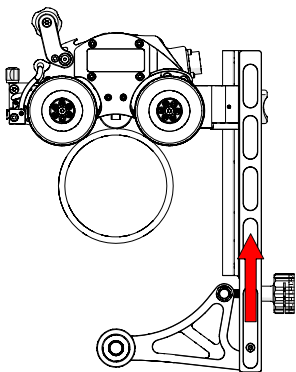
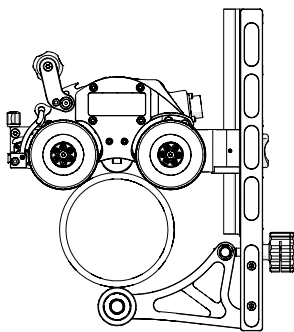

Fig. 5 - Press base to pipe
Fig. 6 - Base contacts pipe
3. Press the base up (Fig. 5) against the pipe until it stops moving (Fig. 6).